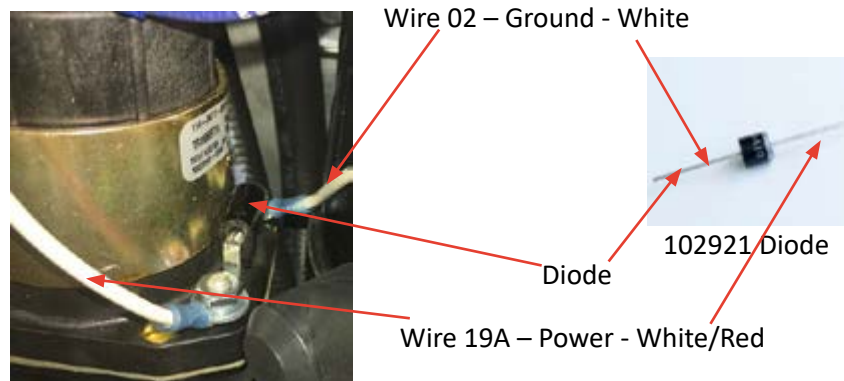

Figure 1
The diode is shown between the power (19A) and ground (02) wires at the contactor coil terminals. See Figure 1.